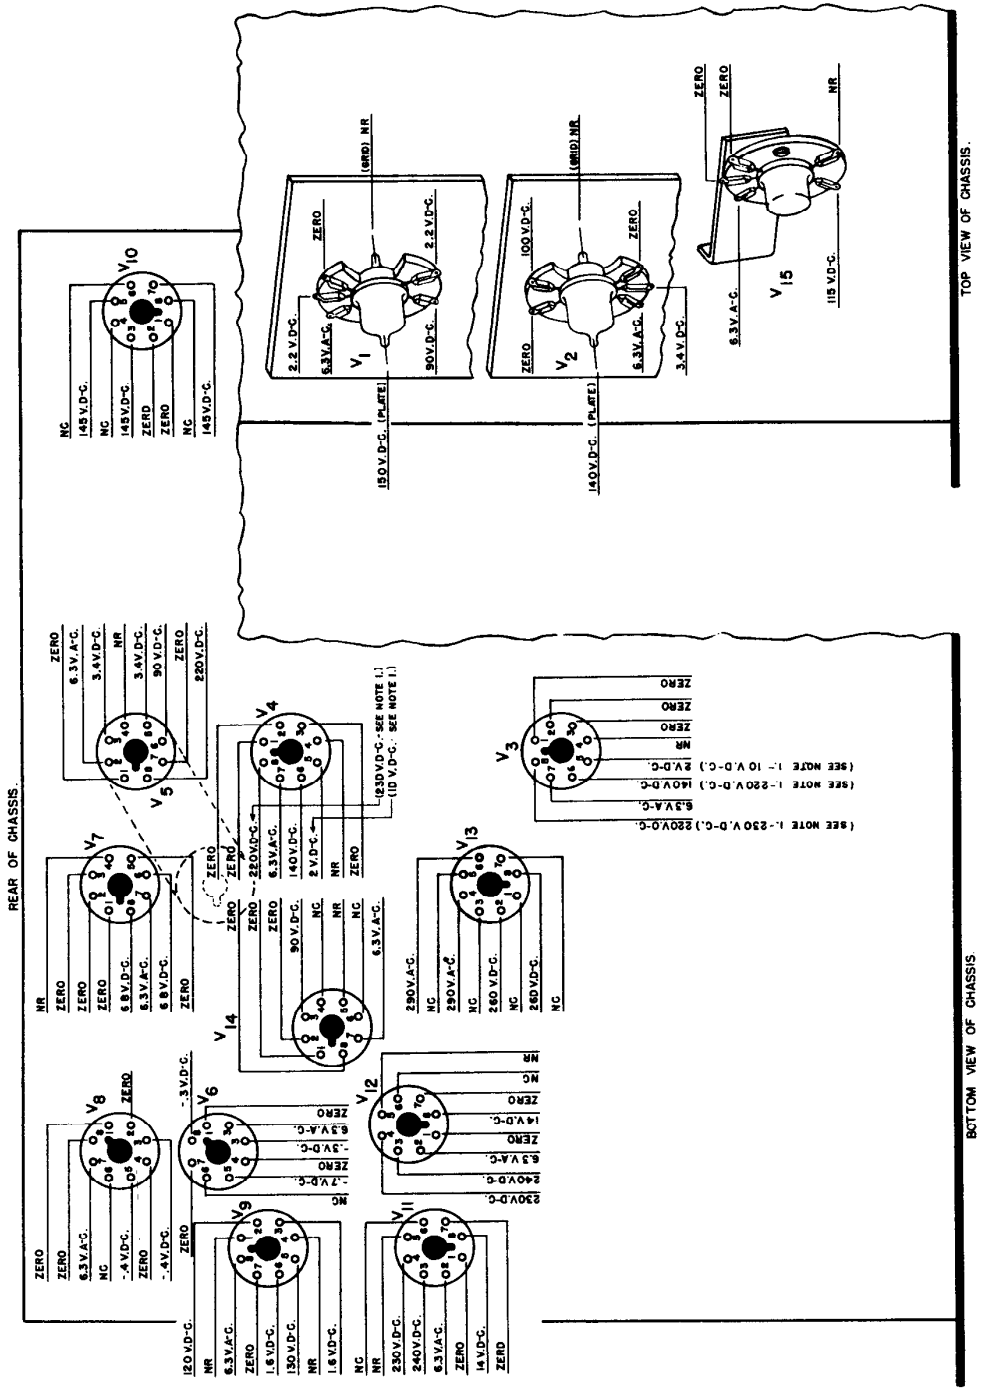
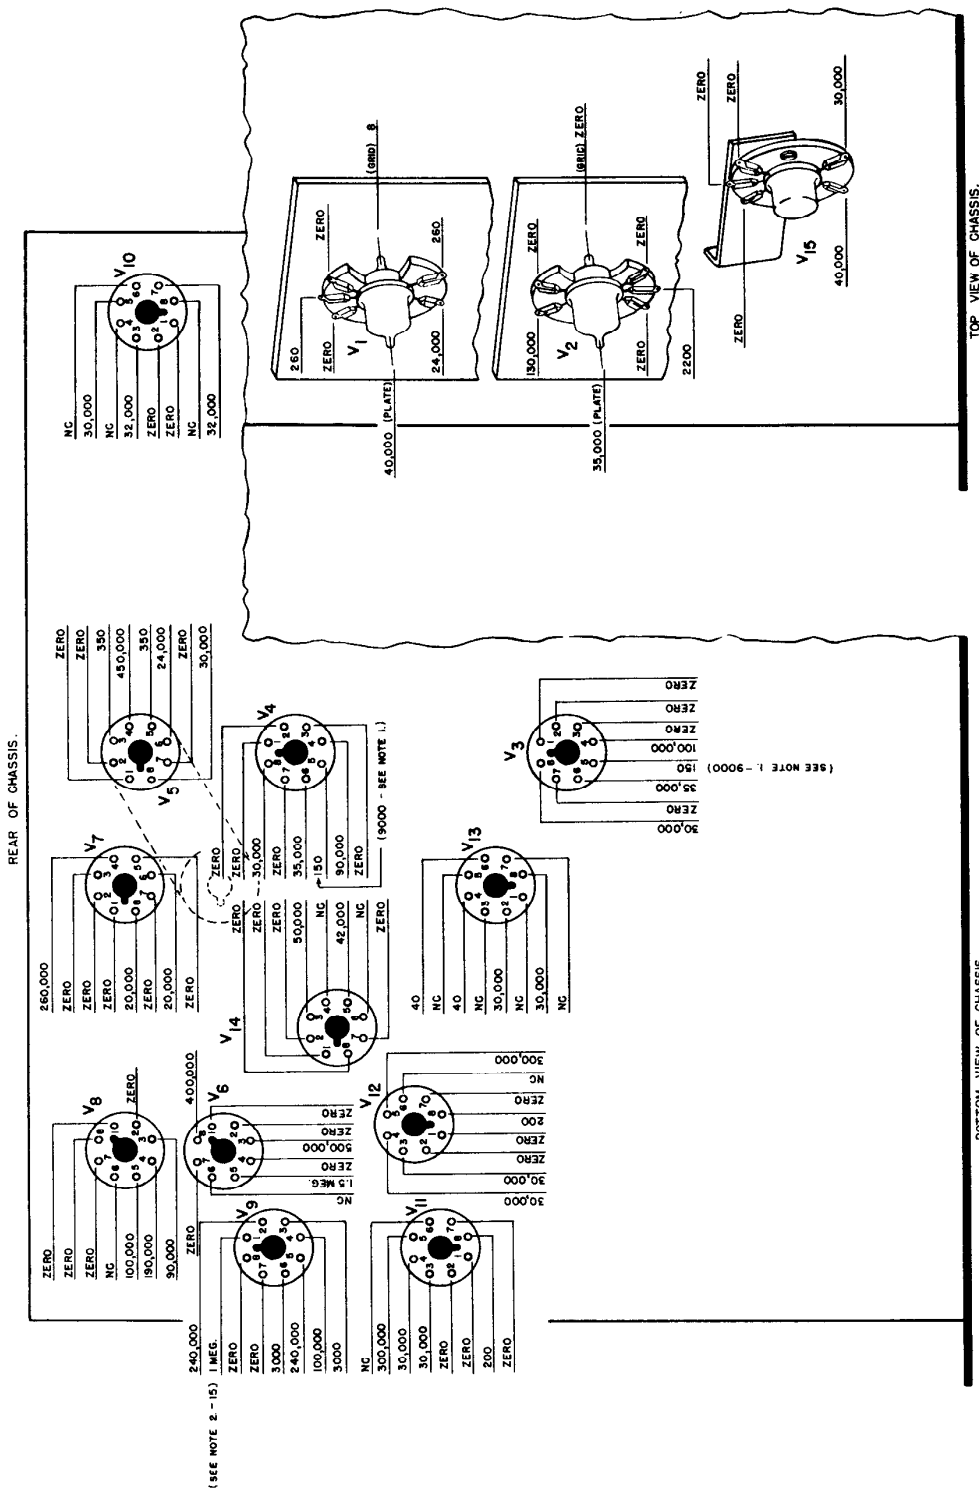
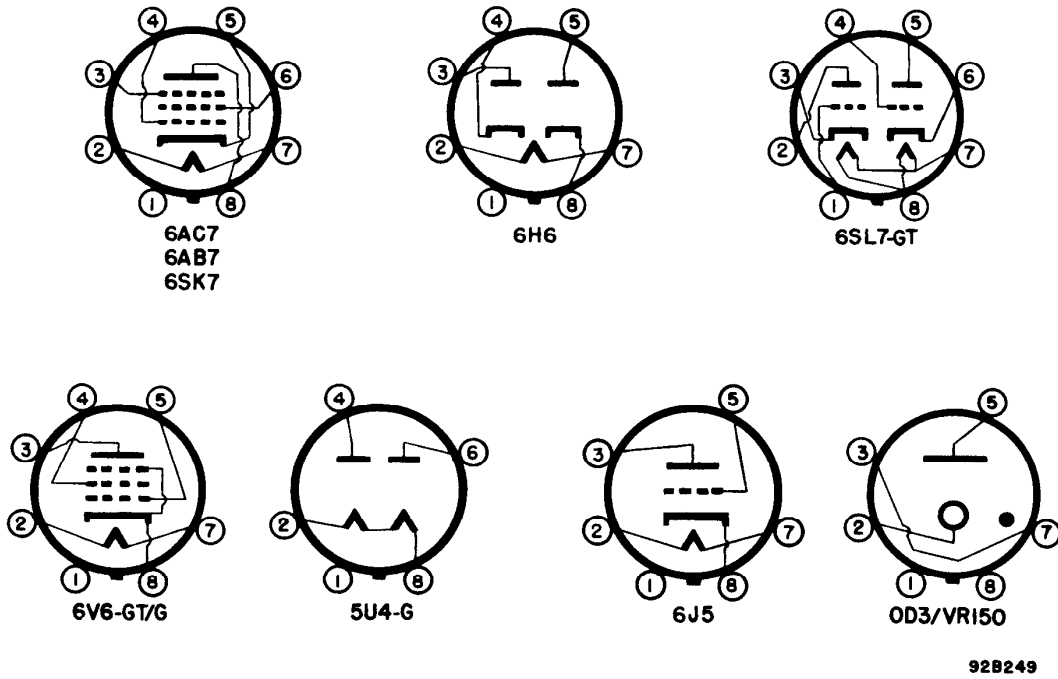

Figure 5-2. Radio Receiver Model S-36A, voltage chart.
Figure 5-3. Radio Receiver Model S-36A, resistance chart.
Figure 7-6. Radio Receiver Model S-36A, tube socket connections.
a. Voltage Chart. - Refer to Fig. 5-2. for the tube socket terminal voltages. Voltages shown are those between the terminal and ground (chassis) unless otherwise specified. To identify the tube socket connections, refer to Fig. 7-6. The readings were taken with an RCA Volt-Ohm-ist Junior analyzer using 20,000 ohm per volt sensitivity. To prepare the receiver for measurement, disconnect the antenna, connect a jumper between the antenna terminals A₁, A₂ and GND, disconnect the speaker and replace with a 5000-ohm 10-watt resistor across the 5000-ohm output terminals or a 500-ohm 10-watt resistor across the 500-ohm terminals, and set the controls as follows:
b. Resistance Chart. - Refer to Fig. 5-3. for the tube socket terminal to ground (chassis) resistance measurements. To identify tube socket connections, refer to Fig. 7-6. The readings were taken with an RCA Volt Ohmyst Junior analyzer. To prepare the receiver for measurement, disconnect the a-c line cord and set the controls as follows: